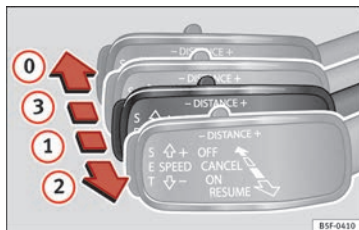

Fig. 202 On the left of the steering column: third lever for operating the Adaptive Cruise Control.
The ACC can be activated again by moving the lever to position ② » Fig. 202.